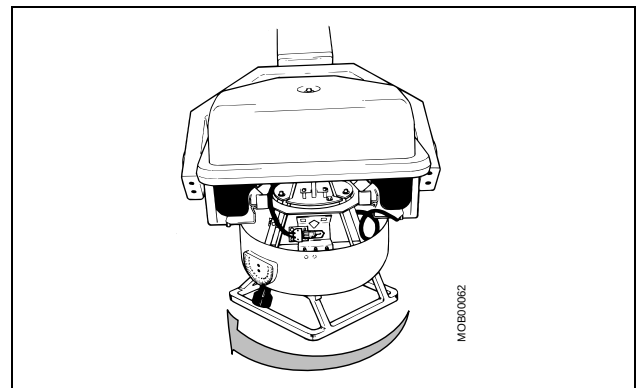

*Fig. 6 Rotating the collimator*
- Rotate the collimator to the opposite end stop as indicated in *Fig. 6*.